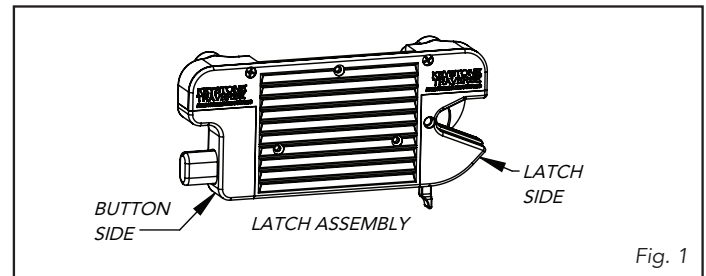

Fig. 1
1. Determine if the handing of the latch out of the package is correct for the application. When mounted on the fence post opposite the hinges, the latch side of the assembly (Fig. 1) should be on the same side of the fence as the hinges. If the latch needs to be reversed, continue to Step 2. If the latch does not need to be reversed, skip to Step 4.